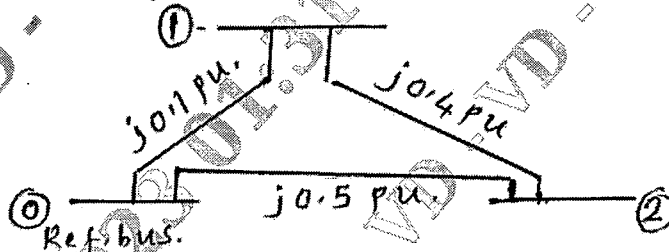

Fig.Q.10(a)
- 10 a. Obtain Z_{bus} by building algorithm for the system shown in Fig.Q.10(a). All values are in p.u. (impedance). Take bus 0 as reference bus. Add the elements in the order of ref. bus to bus1, ref. bus to bus2 and finally bus 1 to bus 2. (10 Marks)